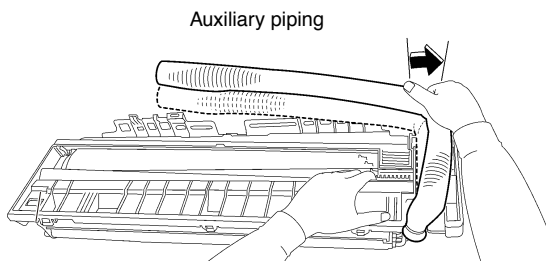

Fig. 43
(4) Widen the auxiliary piping to the extent of 10° to 20°. (Fig.43)